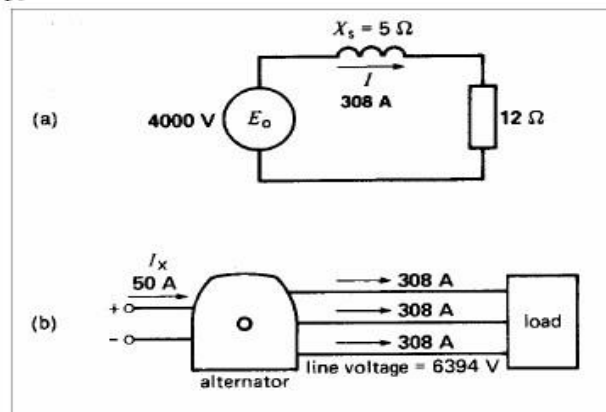

Fig. 1 See Example b. Actual line voltages and currents.
Figure.1 (a) The per-phase equivalent circuit of a synchronous generator without armature reaction while depicting the revolving field produced by the rotor. The phasor diagrams for (b) lagging pf, (c) unity pf, and (d) leading pf.
b. The equivalent circuit per phase is shown in Fig. 1
The schematic diagram of Fig. 1 helps us visualize what is happening in the actual circuit.